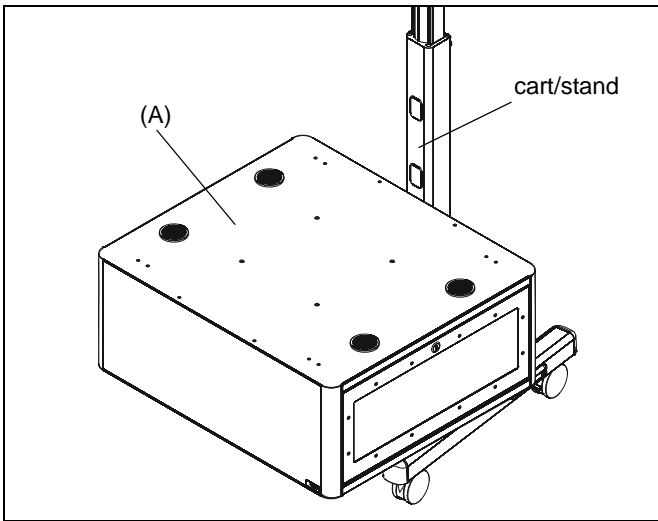

Figure 4
1. Place storage cabinet (A) on top of base support. (See Figure 4)